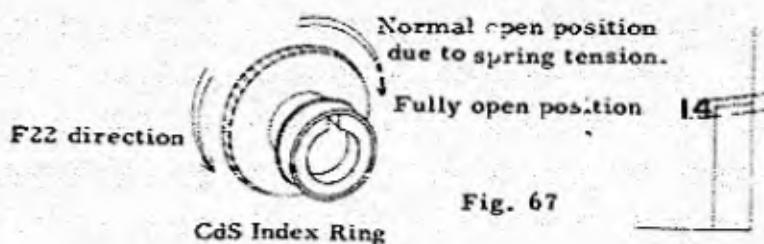

Fig. 67
4-4-5 Mounting of Gear Switch Lever. See Fig. 67.
- 2) Gradually turn CdS Index Ring in the aperture opening direction, and observe Finder Needle when the Ring cannot be moved any further. (The position where the needle rests due to spring tension. See Fig. 67.)